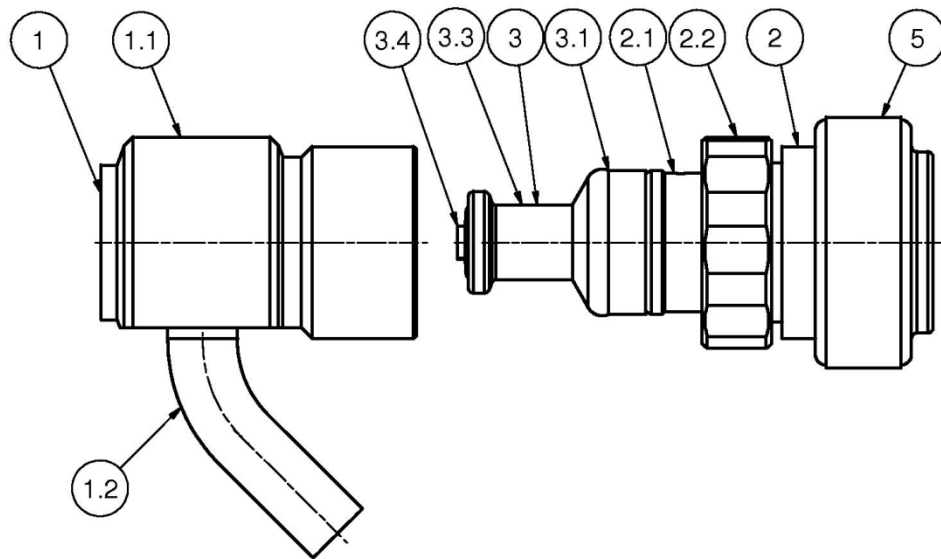

Figure 4 – Housing (1) and valve insert (2), disassembled
- In case of sampling valve with weld connection, you must dismount the valve insert (2) from the housing (1) prior to welding work [see chapter 6.2].
- Open the valve slightly by turning the handwheel (5) counter-clockwise.
- Carefully loosen the cap nut (2.2) of the valve insert (2) by turning it counter-clockwise, manually or with spanner (size 9).
- Pull out the valve insert (2) from the housing (1) (see figure 4).